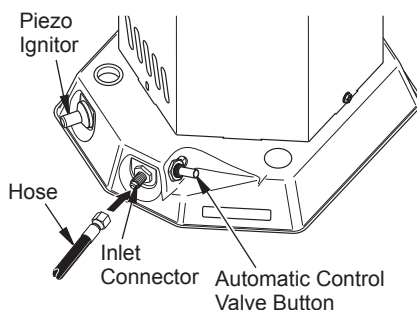

Figure 3 - Hose and Inlet Connector, Automatic Control Valve Button and Piezo Ignitor Button Locations
2. Connect hose to inlet connector (see Figure 3). Tighten firmly using a wrench.
5. Push in and hold automatic control valve button (see Figure 3). Push and release piezo ignitor button. Keep pushing piezo ignitor button until the burner lights. Hold control knob down